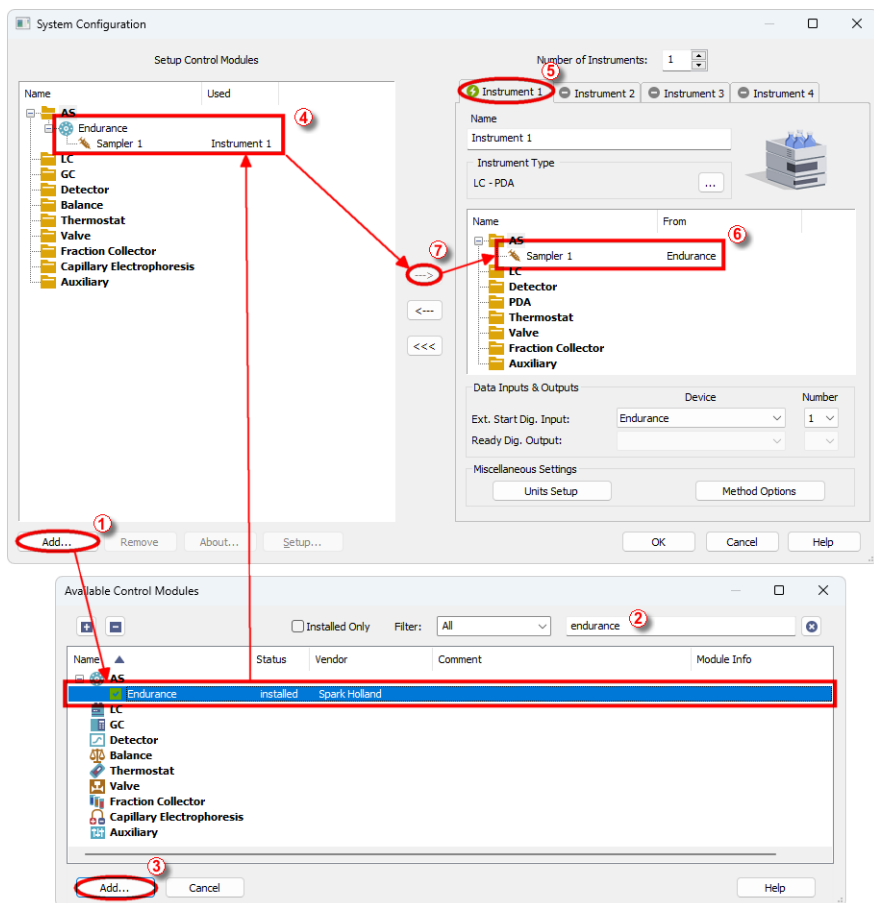

Fig. 5: System Configuration
- Press the **Add** button ① (see Fig. 5 on pg. 6.) to invoke the *Available Control Modules* dialog.
- You can specify the searching filter ② to simplify the finding of the driver.
- Select the **Endurance** sampler and press the **Add** ③ button.